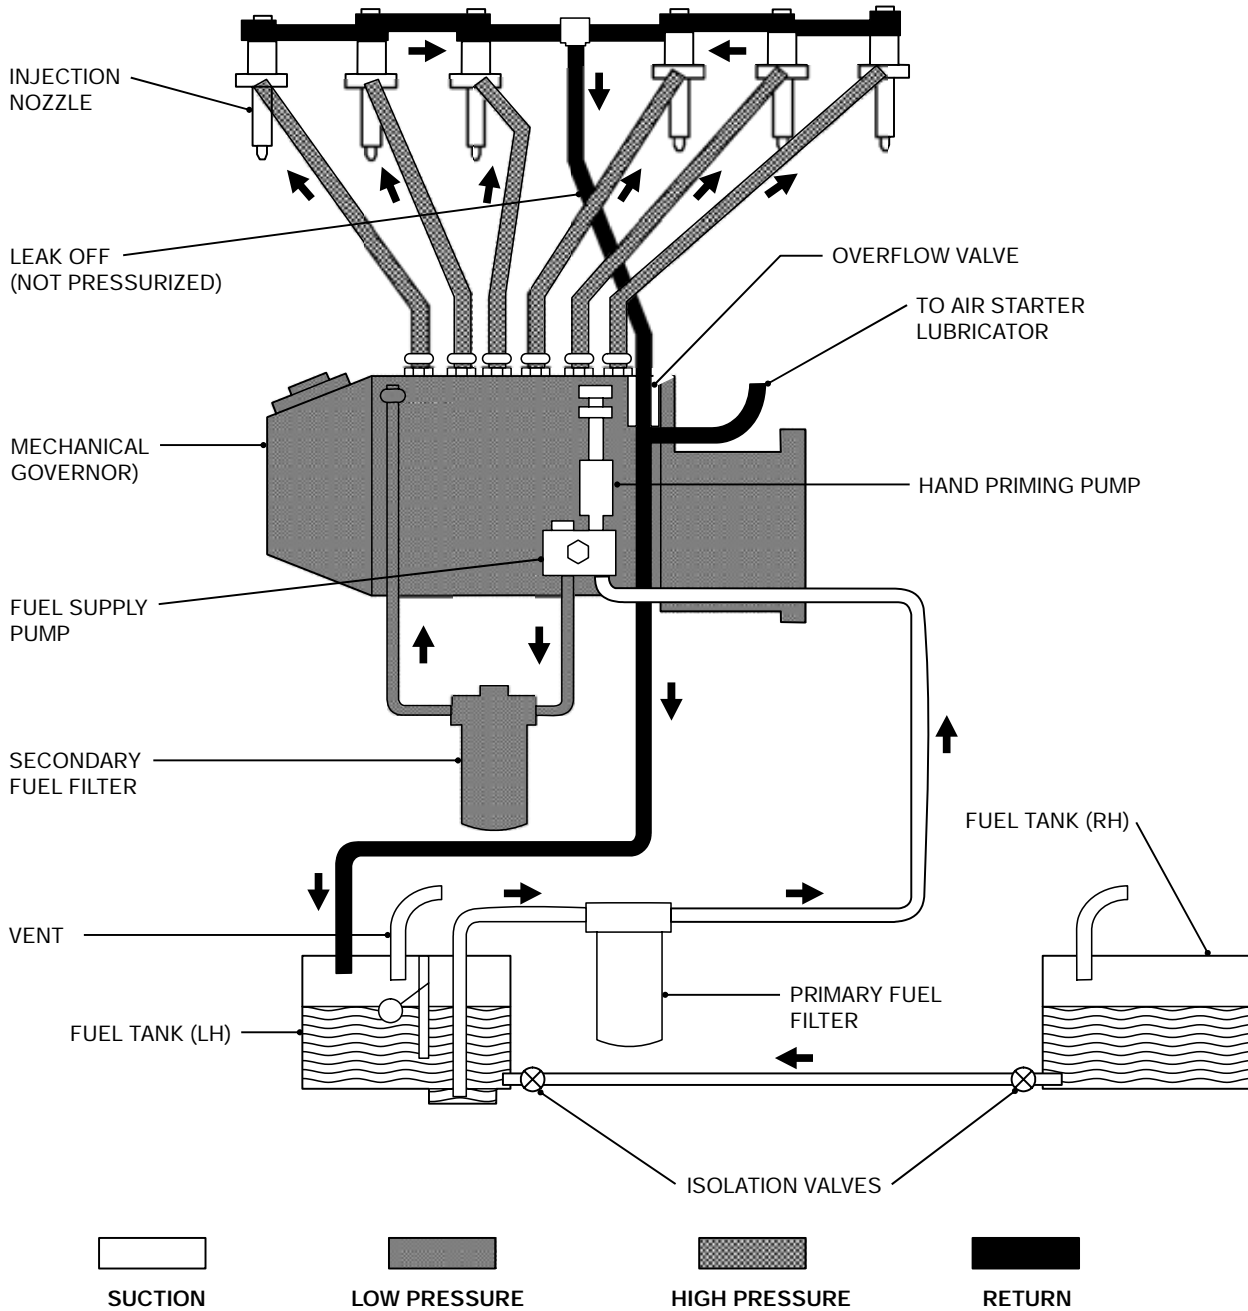

Figure 1 Fuel System Schematic
- 11.** The fuel tanks are to be removed and replaced in accordance with EMEI Vehicle G 703. Ensure that prior to draining either tank the isolation valves are shut off to prevent fuel transfer or leakage. Figure 1 illustrates the fuel system schematic.